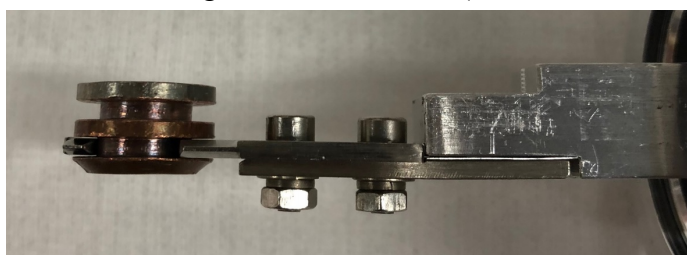
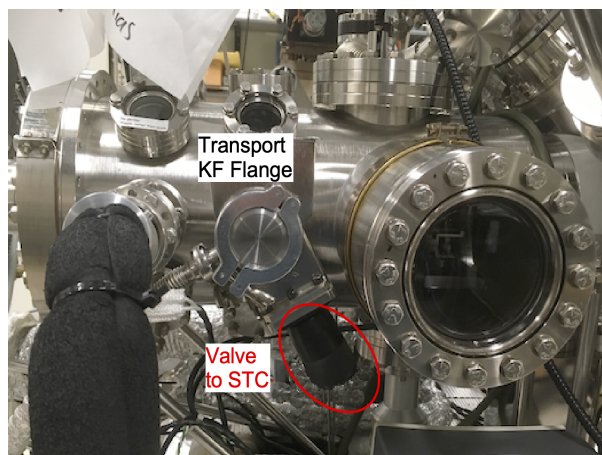

Figure 1 Puck mounted on portable transport arm claw.
Figure 2 Valve to STC and Transport KF Flange.
The portable sample transfer suitcase is designed to allow transfer of samples from inert atmosphere directly into UHV without exposure to air. It is only compatible with sample pucks or pots. The suitcase arm loads onto the quickflange port on the south side of the STC facing the door, Figure 2. It is mounted with the gate valve oriented vertical up, so the valve actuator mechanism is at 12 o'clock. **Be careful with the Hand Valve to the STC, Figure 2, where the Transport arm gets attached. This valve is not interlocked and a mistake could lead to venting of the STC (SAC).**
- (1) Always keep the transport arm capped to avoid damage to the KF mount (when not attached to anything).
- (2) You need to mount your sample on a puck in an inert atmosphere.
- (3) Place the PTS into the inert atmosphere box.
- (4) Open the PTS's gate valve and with the valve actuator oriented at 12 o'clock, move the claw out of the arm so it can be accessed.
- (5) Mount the puck with your sample on the portable transport arm claw using the bottom groove (Figure 1), such that the sample faces up with the gate valve actuator mechanism at 12 o'clock. Be careful not to damage the pin at the end of the claw that holds the puck in place. Ensure the sample is secure, since the puck will be vertical during sample transport.
- (6) Hold the suitcase arm such that the VAT label on the valve is oriented up while transferring the arm to the Kratos. In this orientation, the sample is vertical, but the claw holds the puck from beneath. Holding it the wrong way may cause the sample to fall out during transport. Use the screw on the end of the arm to lock the magnet in place during the transfer.
- (7) When you arrive at the Kratos, check that the pressure in the STC is $< 10^{-8}$ Torr and that the Load Lock, LL, Turbo is running. If not start it up and wait till the LL pressure is $< 10^{-7}$ -Torr.
- (8) Check that the valve to the STC is closed by turning the valve clockwise (the one attached to the KF Flange that faces down), Figure 2. **TAKE CARE: there are no interlocks on the valves for the transport arm. You can vent the STC by mistake!!! If the**
- (11) Attaching the Transport arm to the Transport KF Flange, Figure 2:
- a. Remove the cap from the transport KF flange and from the PTS arm port, Figure 2.
- c. Fasten the arm with the clamp for the KF with the bolt/screw facing down, Figure 2.
- d. **ONLY THEN** it is safe to open the valve to STC (the one facing down), Figure 2. If a, b or c is not open **STOP HERE** and restart from step (6).
- (20) Unlock the magnet and extend the PTS transport arm into the STC chamber.
- (23) Close valve to STC (the one facing down, Figure 2), **make sure that it is fully closed.**
- (24) Close the regular LL/STC gate via the computer.
- (25) Check that the pressure in STC goes back to normal (if not the manual valve might still be open, close it.)
- (26) When pressure is low enough $<10^{-8}$ Torr, you can transfer your sample into the SAC as described above.
- (27) To remove the transfer arm from the Kratos.
- a. Make sure the valve to the STC is closed, Figure 2.